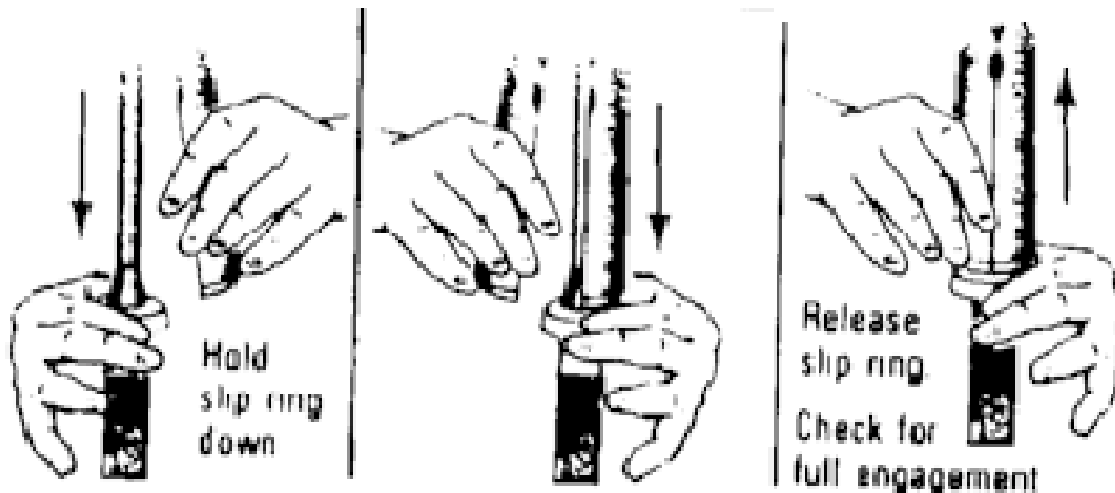

Figure E-38. Placing the handguards.
o. Put the handguards in place (figure E-38).